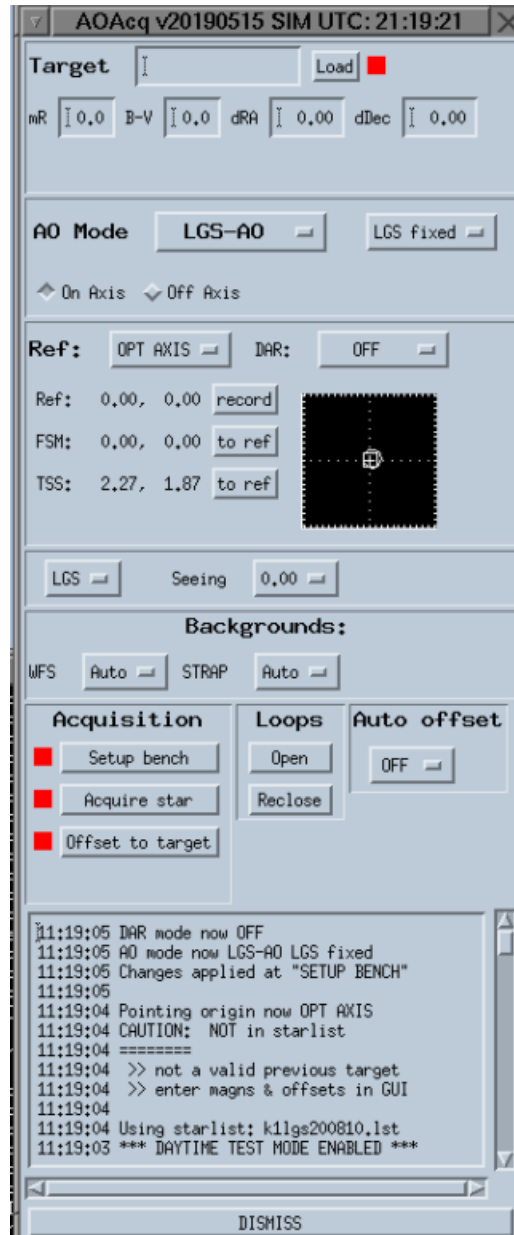

Figure 1: A schematic diagram of the AO acquisition tool, 'aoacq'.
The 'aoacq' is a relatively complex IDL program consists of ~ 5332 lines of code. A screenshot of the 'aoacq' GUI is shown in Figure 1. The primary functions of the 'aoacq' are
The 'aoacq' GUI contains small squares (four red color boxes in Figure 1) to show the status of the acquisition tool and a rectangular graphical window (black in Figure 1) to show the relative position of the chosen pointing origin. These details are not all that relevant to the proposed work.
When the 'setup bench' button on the 'aoacq' GUI, highlighted with a red circle in Figure 1, is pressed, the following setup task is performed:
- If the quality checks are passed, then the setup bench process starts. The status indicator - the red square box next to the 'setup bench' button on the 'aoacq' GUI (Figure 1) changes the color from red to orange, indicating that the 'setup bench' task is being executed.
- The status indicator - the red square box next to the 'setup bench' button on the 'aoacq' GUI (Figure 1) changes the color from orange to green, indicating that the 'setup bench' task is complete.